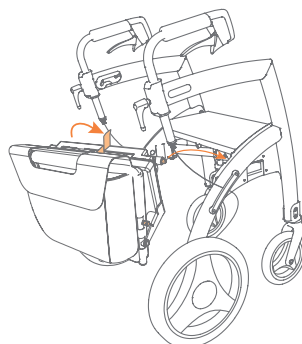
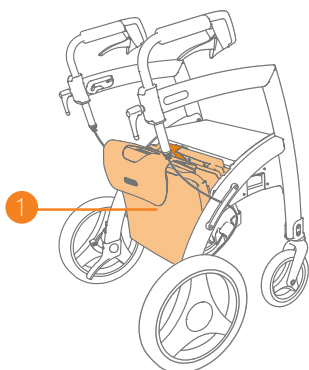

Figure 37: Attaching the transport chair package.
Figure 38: Wheelchair package attached.
- c. Place the Rollz wheelchair package in the two notches behind the seat (**Figure 37**) and (**Figure 38**).
- a. Attach the wheelchair package to the Rollz Motion Electric before you go out **(Figure 37)**.